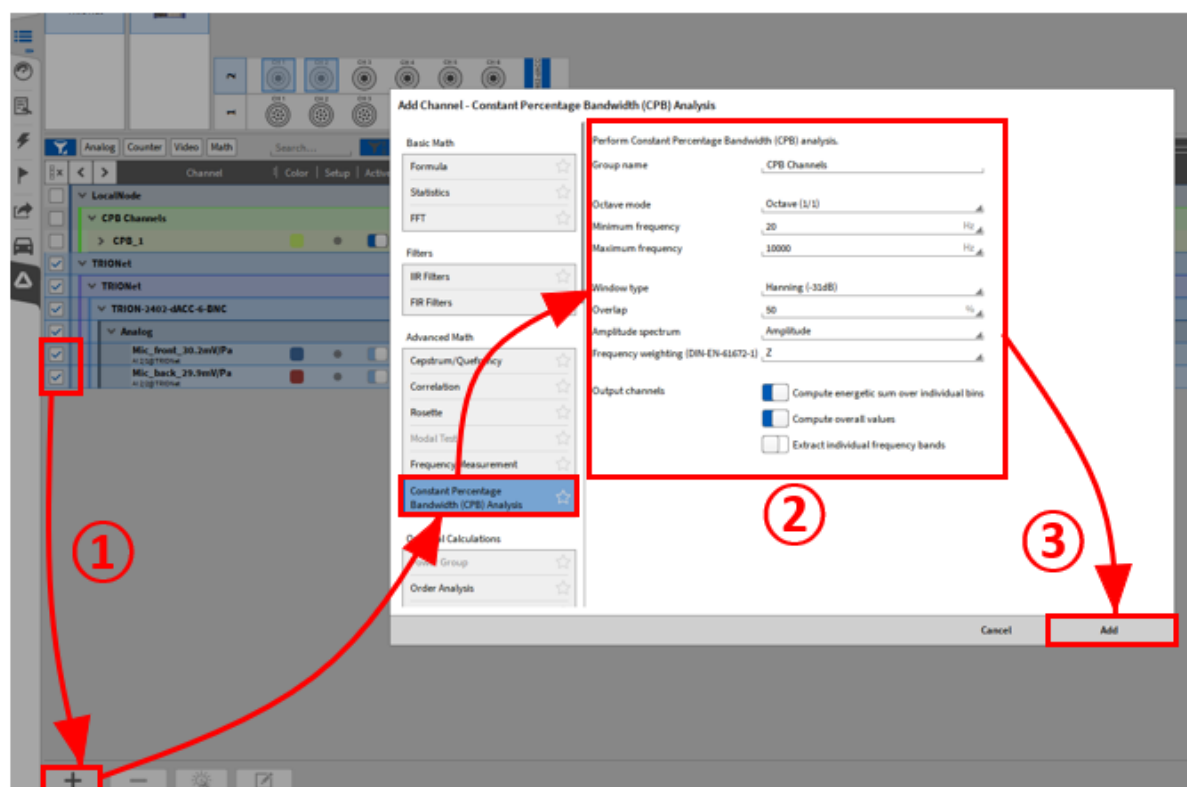

Fig. 7.128: Creating a CPB Analysis
The following options can be selected for a CPB Analysis (see ② in Fig. 7.128):